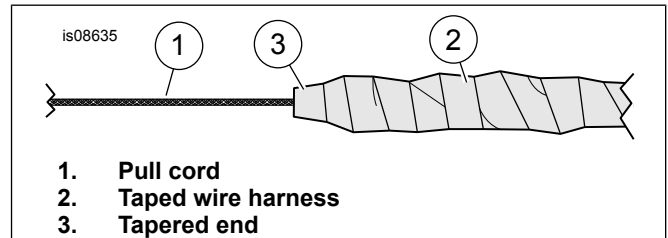

Figure 2. Pull Cord and Wire Harness
- See Figure 2. String a suitable cord (1) through the handlebar. Tie the cord to the wire harness. Wrap tape (2) over the harness and pins. Tape should come to a taper (3) and be flexible to ease pulling through the handlebar.